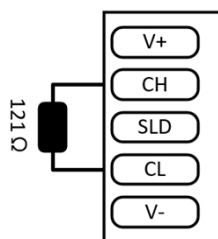

Fig.5-6-10 Terminal Resistance Wiring
**Note:** The power interface on the CANopen adapter needs to be separately connected to the DC24V power supply, and the two terminal modules needs to add with the terminal resistance in the network. The connection of the terminal resistance is shown in Fig. 5-6-10 below.